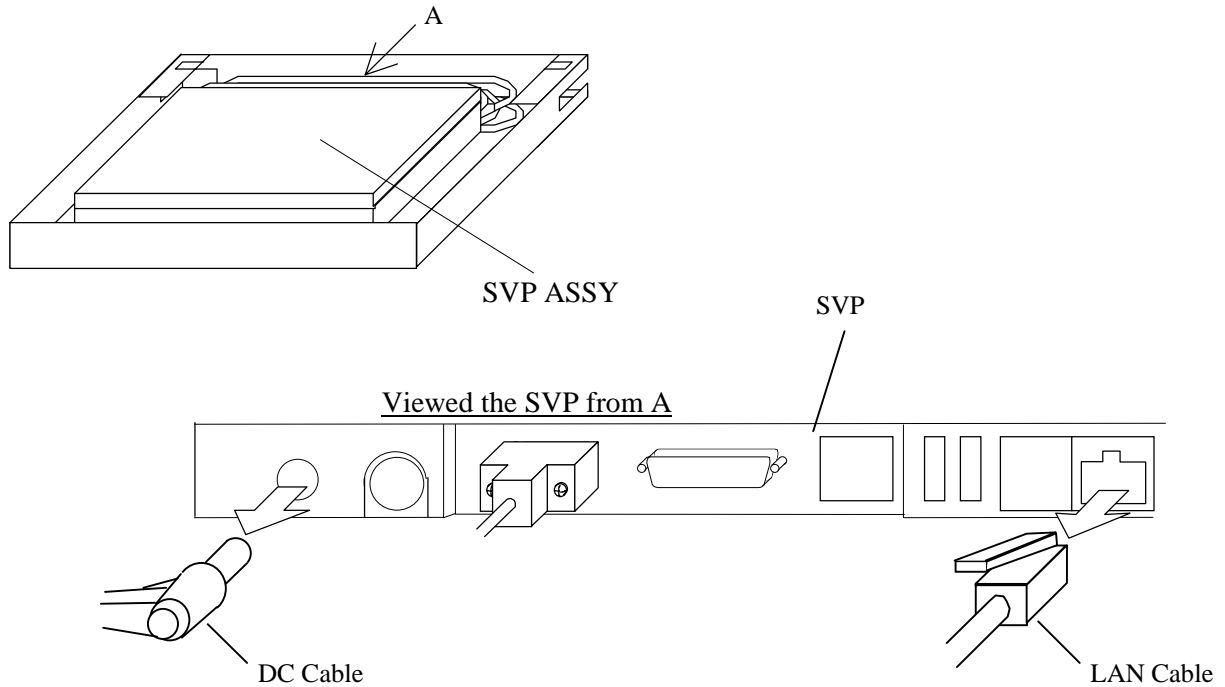

Fig. 4.9-12 Removing and installing Cables
- c. Connect the LAN cable and DC cable to the SVP. (See Fig. 4.9-12.)